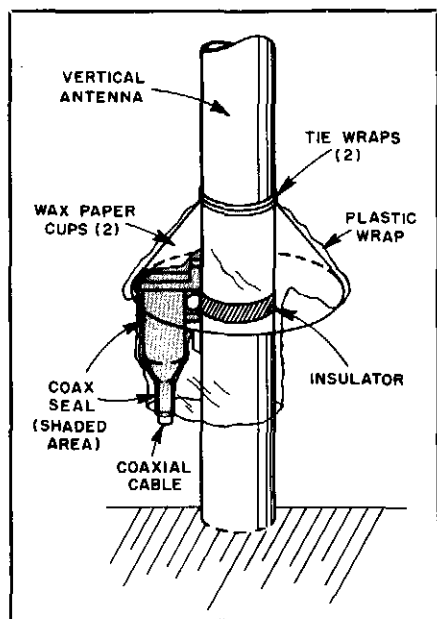

Fig 60—N7ENI's sealed connection on the feed point of a vertical antenna.
□ I have found that in very wet and rainy climates, where the rain is usually wind driven, a weather boot sealed with silicone caulk does not work well. Coax Seal™ and especially electrician's tape do not adhere well to silicone caulk. The driving rain can be blown or wick into the bottom of the boot, then down the cable braid. Here, however, is an excellent procedure for weatherproofing antenna connections (refer to Fig 60):